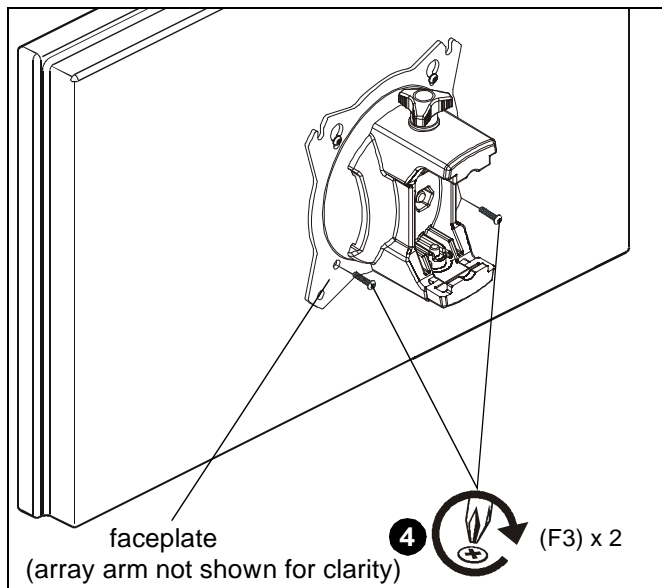

Figure 8
- Using Phillips screwdriver, install two M4x12 mm Phillips pan machine screws (F3) through the *lower* mounting holes on faceplate into the display. (See Figure 8)